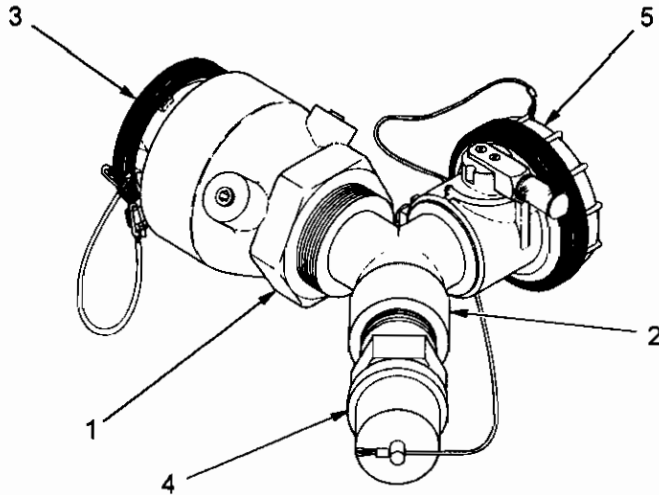

Figure 1-13. Nozzle Recirculation Manifold
The nozzle recirculation manifold (1), figure 1-13, provides an alternate recirculation configuration. Rather than recirculating pumpage directly from the liquid fuel filter-separator, the nozzle recirculation manifold allows connection of a D-1 and/or a CCR nozzle into the recirculation line. The manifold is a two-inch wye (2) inlet fitted with a standard aircraft D-1 receiver(3), a standard aircraft CCR receiver (4) and a two-inch valved unisex coupling (5).